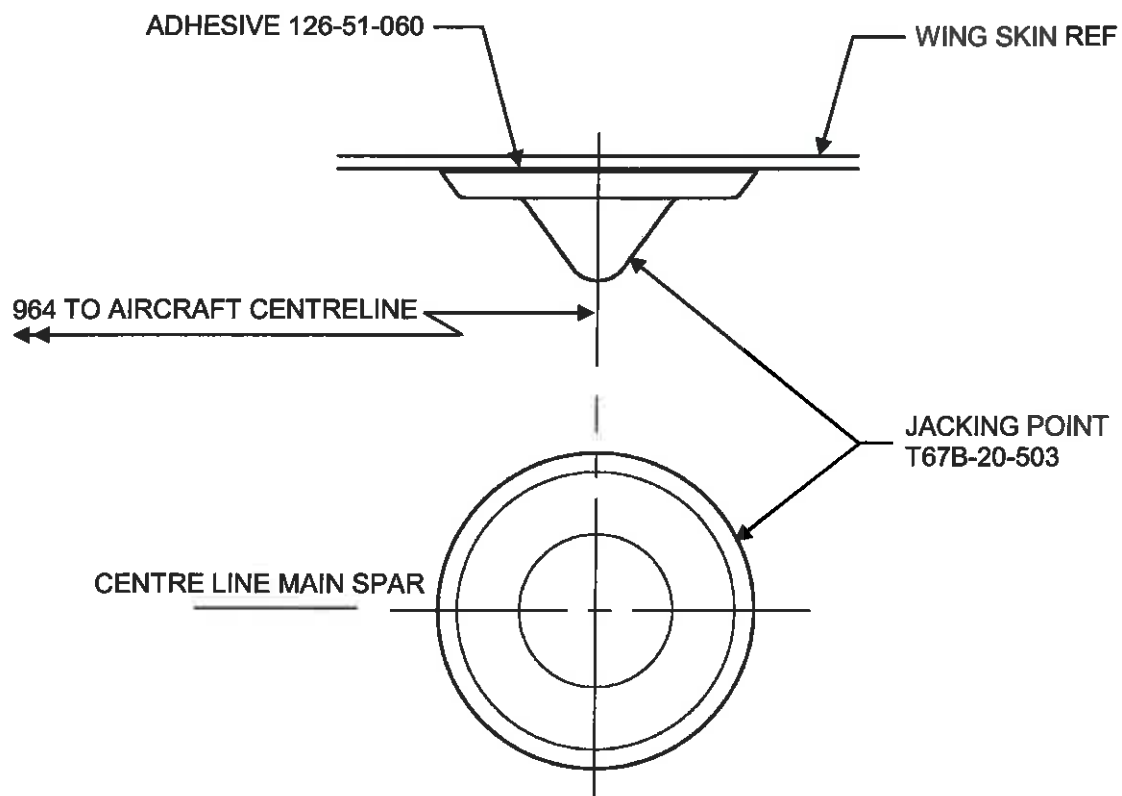

FIGURE 2
- 8 Mix adhesive 126-51-060 (or Marshall Slingsby approved equivalent) IAW T67 GRP Aircraft Repair Manual and apply to Jacking Point. Position Jacking Point as per Figure 2.